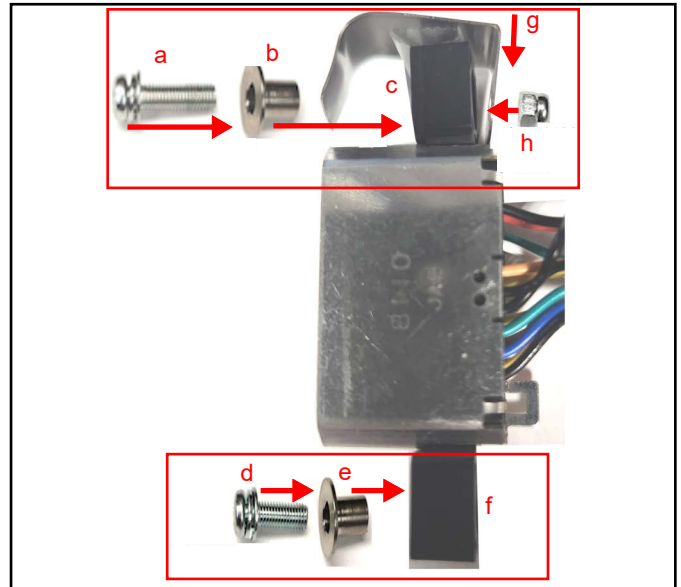

Figure 2 Installing iVIZION Harness in Bracket and Frame Ground Plate
1. Install the Harness into the Rear Mounting Bracket using the Floating Collars (**Figure 2 b/e**) on two (2) screws - 1 M2x6x12mm (longer) screw (**Figure 2 a**) and 1 M2x6x10mm (shorter) screw (**Figure 2 d**).
Note: The M2x6x12mm (longer) screw (**Figure 2 a**) must be installed in the Upper Mount of the Harness (**Figure 2 c**), with the M2x6x10mm (shorter) screw (**Figure 2 d**) installed on the Lower (Bottom) Mount (**Figure 2 f**).
2. Position the Frame Ground Plate over the Rear Harness Bracket (**Figure 2 g**).
3. Slide the Ground Plate onto the protruding Upper Screw, and secure it with the Nylon Nut (**Figure 2 h**).